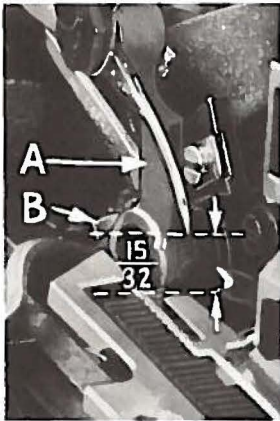

Fig. 3
With throat plate in position, needle should center in the front end of needle slot. When needle is at high position, needle point should be set $\frac{15}{32}$ inch above throat plate (Fig. 3). Move needle driving arm (A, Fig. 3) by loosening clamp screw (B). Remove throat plate.